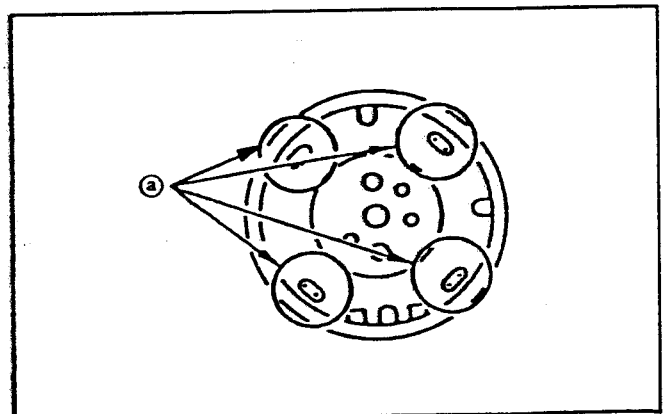

Fig. II-108
\* Parts ⑨ in the Fig. II-108 are plug-in type. (Not soldered as in the conventional models)